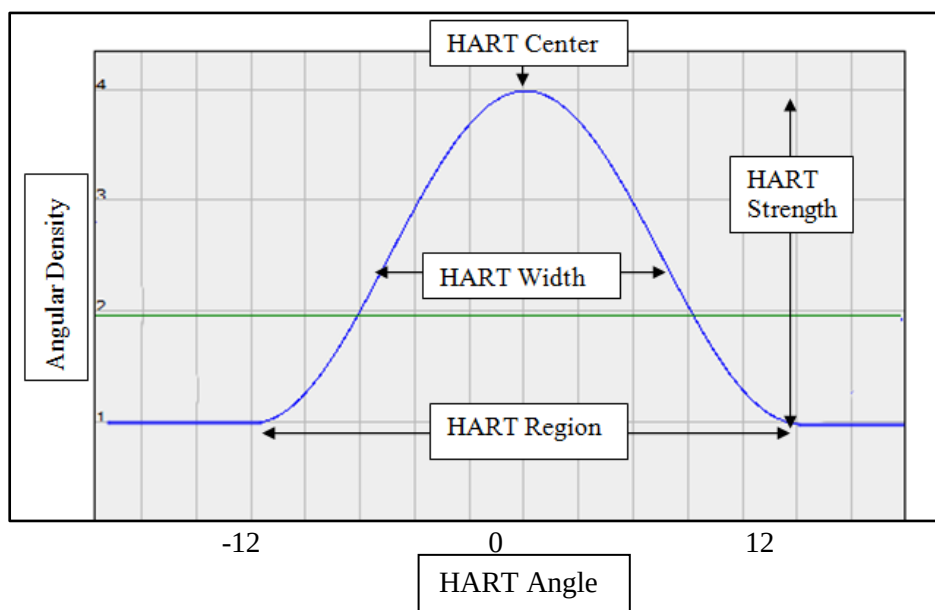

Figure 1: Theta stage slows down in the HART region and reaches at the minimum, defined by the HART strength, at the HART center angle.
- 5) HART Width = angular span of ‘Gaussian’ shaped HVAT curve (Figure 1)
- 6) HART Strength = Multiplicative factor over the standard angle increment for each angle, reduces theta stage rotation by this factor (Figure 1)
- 7) HART Center = angle where angular speed of the theta stage is minimized – Long view angle (Figure1)
Figure 1 illustrates how angular speed of theta stage to be adjusted to achieve variable angle scans. In the Gaussian-shaped HART, the HART region is composed of projections with variable angular spans. The angular density increases to the full strength at the HART center, long view angles. Single and double HART regions in a tomography are supported.